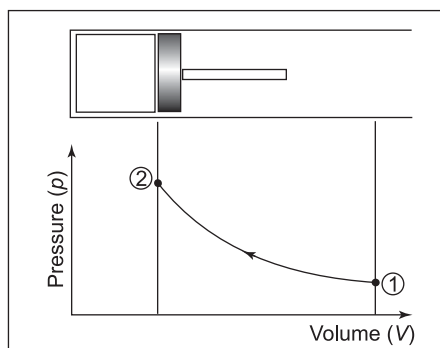

Figure 1.9 A process
2. **Process:** A path defined by a distinct mathematical rule or relation (Figure 1.9).